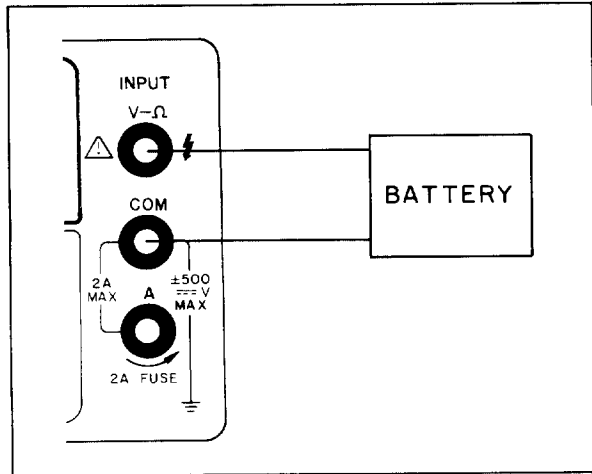

Figure 3-6. DC Voltage Measurements.
- c. Connect test leads from the Multimeter VΩ (high) and COM (low) terminals to the voltage under test as shown in Figure 3-6.